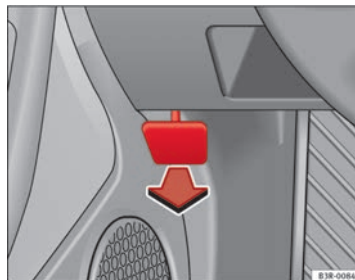

Fig. 179 Detail of footwell area on driver side: lever for unlocking the bonnet
- To release the bonnet, pull the lever under the dash panel ⇒ Fig. 179 in the direction indicated (arrow).